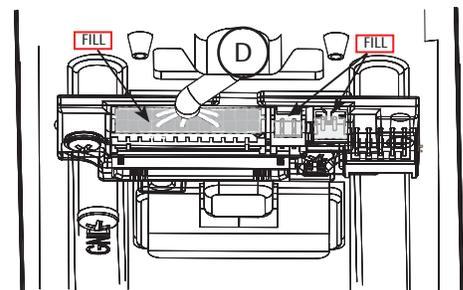

Figure 18c
- Ensure all openings on back of secured reader connector are covered completely with grease (Figure 18c).